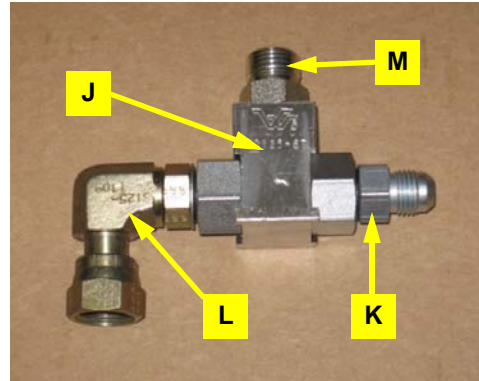

Figure 4a: Assembled load sense shuttle
- a. Assemble the load sense shuttle **J** with adapter fittings **K**, **L**, and **M** (Figure 4a).